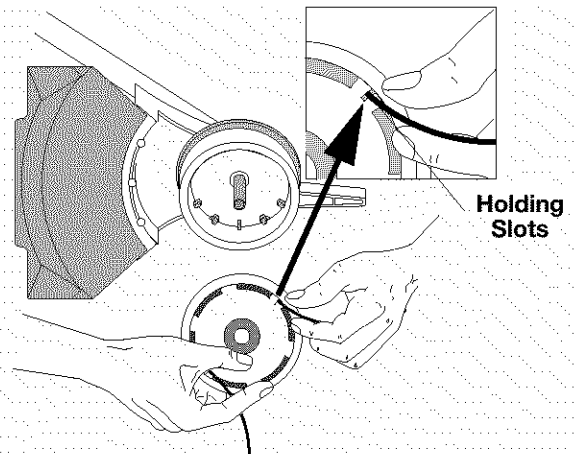

Fig. 33
4. Insert one line end into each holding slot (Fig. 33).